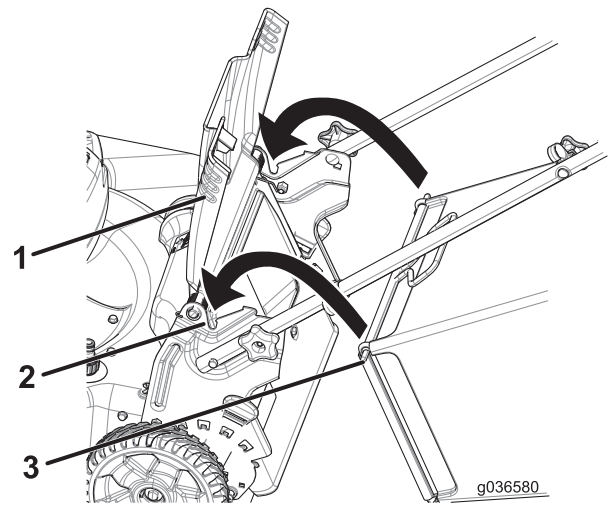

Figure 24
1. Raise and hold up the rear deflector (Figure 24).
2. Install the grass bag, ensuring that the pins on the bag rest in the notches on the handle (Figure 24).